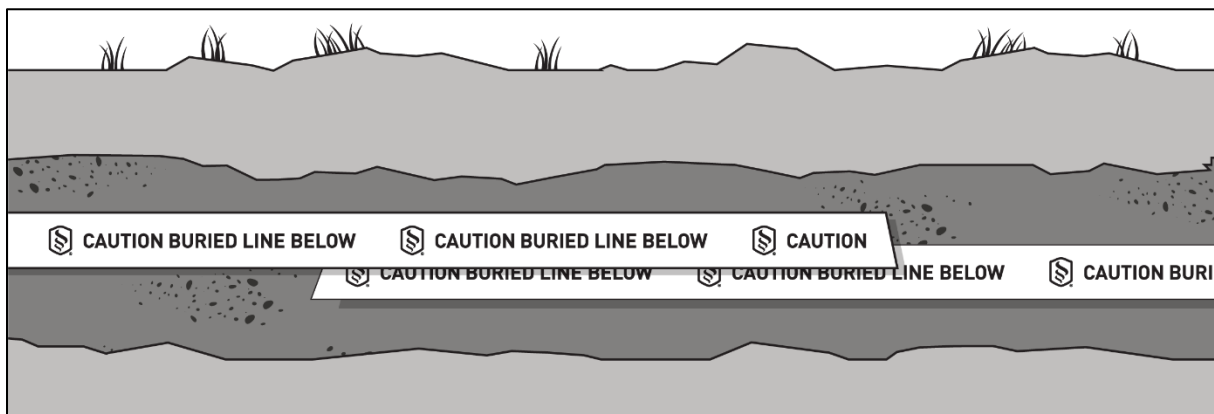

Figure 1 – Overlap ends by a minimum of 20 ft (approximately 6 m).
3. At the end of each box overlap the ends of the tape by a minimum of 20 ft (approximately 6 m). (See **Figure 1**)